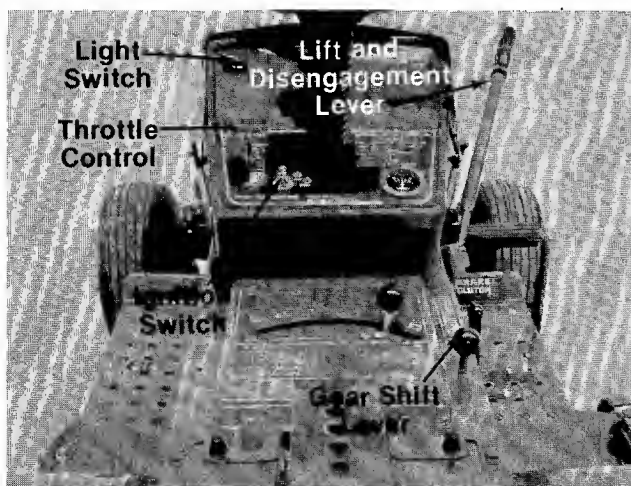

FIGURE 16.
The throttle control is used to regulate the engine speed and to activate the choke on the engine. To get maximum efficiency from cutting, the throttle should be in the FAST position when operating the mower. Pushing the throttle all the way forward past FAST, will choke the engine. See figure 16.
Turn the key to the "START" position to start the engine. When the engine is running, let the key return to the "ON" position. To stop the engine, turn the key to the left to the "OFF" position and remove it to prevent accidental starting. See figure 16.
Push the light switch to turn on the lights. The lights will only operate when the engine is running. See figure 16.
The ammeter registers the rate of battery charge or discharge. The ammeter should register on the plus side (+) when the engine is running in the fast position until the battery is completely charged. With a fully charged battery or with the engine idling, the ammeter will not show a charge. See figure 16.
The lift and disengagement lever is used to raise and lower the cutting deck. Pulling it all the way back and locking it disengages the blades. The lift and disengagement lever **must** be in the disengaged position when starting the engine and when shifting into reverse. See figure 16.
5. Set the throttle control in the CHOKE position. See figure 16.
6. Turn the ignition key to the "START" position. When the engine is running, let the key return to the "ON" position. See figure 16.